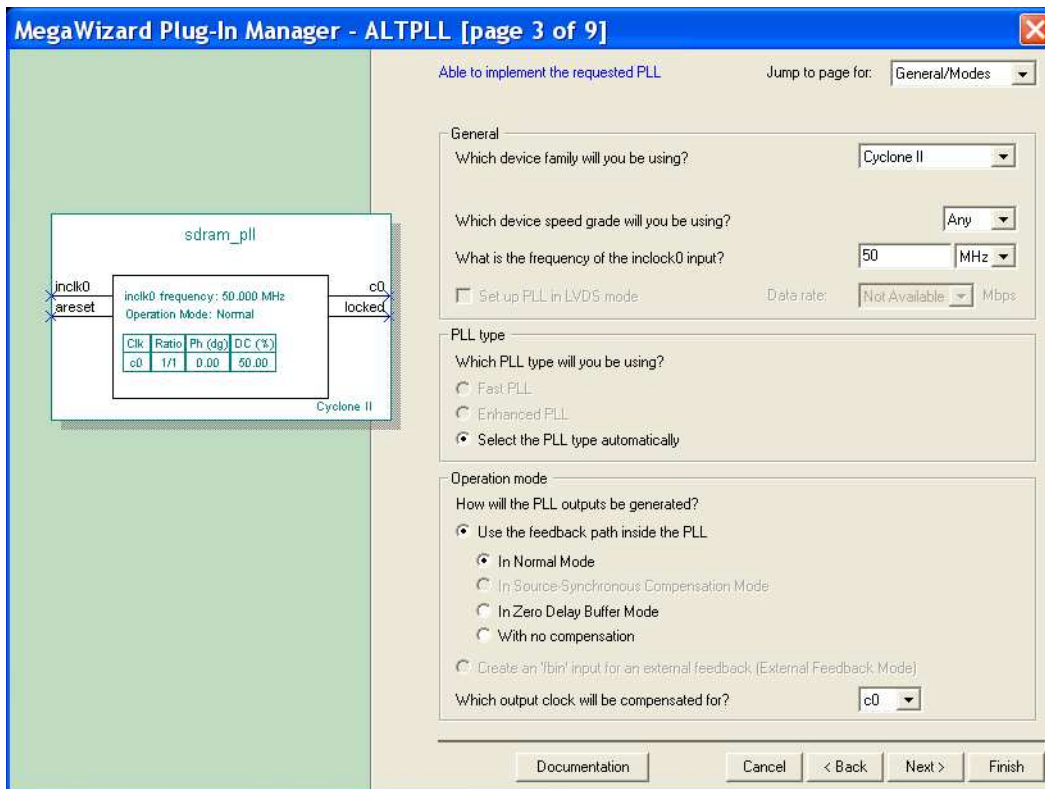
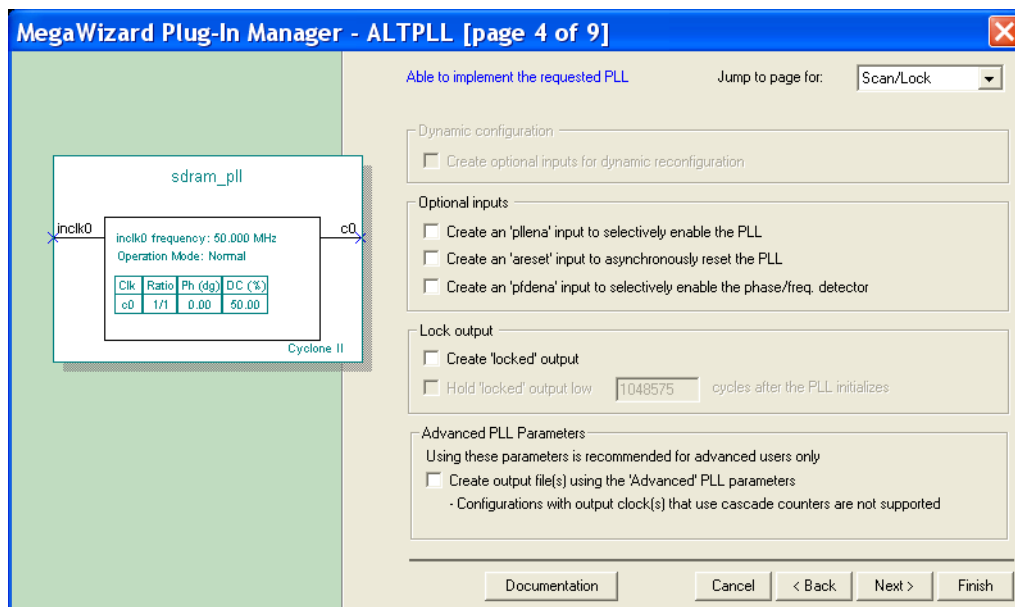

Figure 12. Define the clock frequency.
Figure 13. Remove unnecessary signals.
- In Figure 12, specify that the frequency of the *inclk0* input is 50 MHz. Leave the other parameters as given by default. Click **Next** to reach the window in Figure 13.